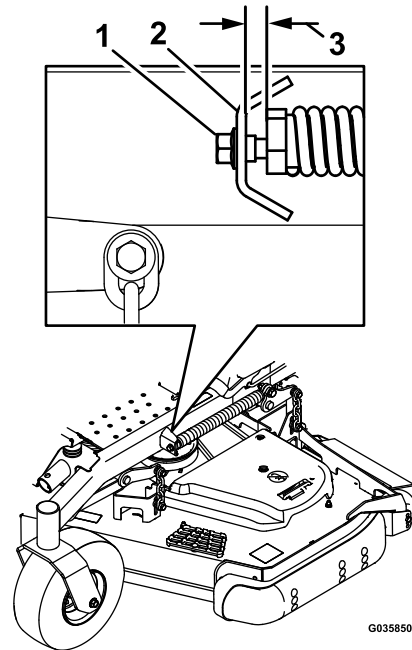

Figure 84
- B. Slowly loosen the adjusting screw on the lift-assist spring until you can remove the screw (see Figure 84).